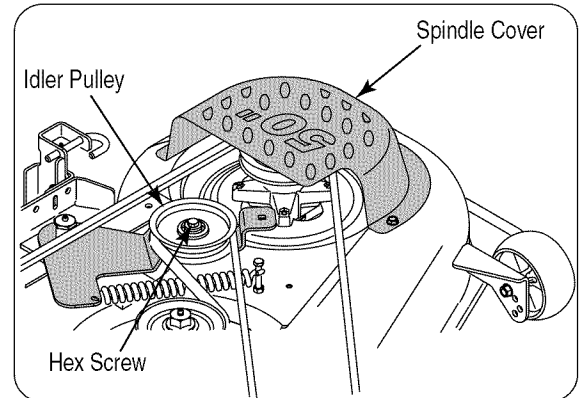

Figure 26
- Remove the spindle covers by removing the self-tapping screws that fasten them to the deck. See Figure 26.
1. Loosen the hex screw fastening the idler pulley to the idler arm as necessary to slide the belt from between the idler pulley and idler arm. See Figure 26.